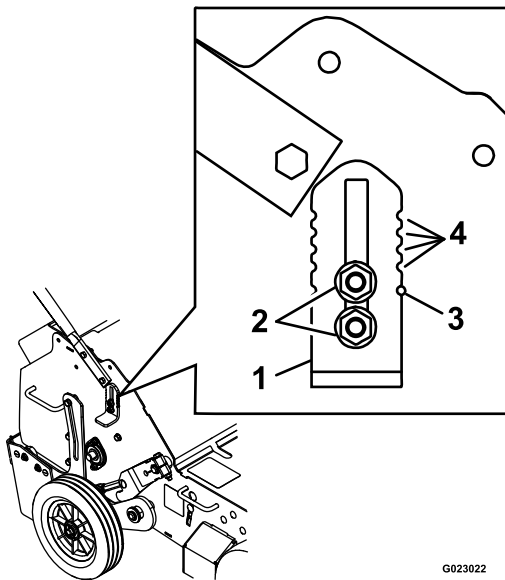

Figure 17
6. Repeat steps 3 through 5 for the wheel stop on the left side of the machine. Use the visual indicator notches in the wheel stop and indicator holes in the frame to set the wheel stops to the same height on each side (see Figure 17).
3. Loosen the nuts securing the wheel stop on the right side of the machine (see Figure 17).